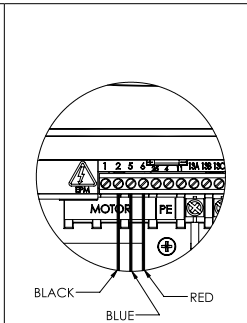

Figure 2: Wiring Potentiometer to SMV Terminal Strip
3. Connect the potentiometer wires to the SMV terminal strip as detailed in Figure 2 and Table 1.